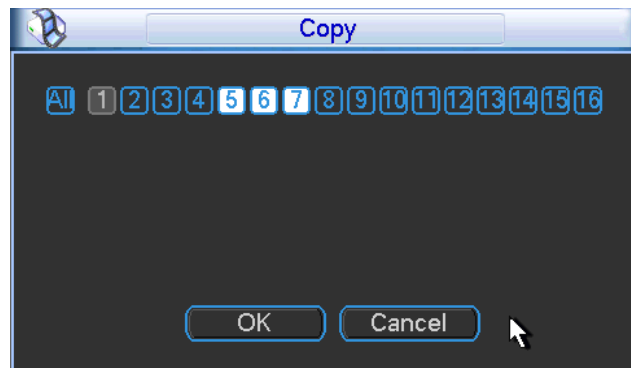

Figure 3-38
1. After making your selections on the first channel, click the **Copy** button. The Copy dialog opens, as shown in Figure 3-38.